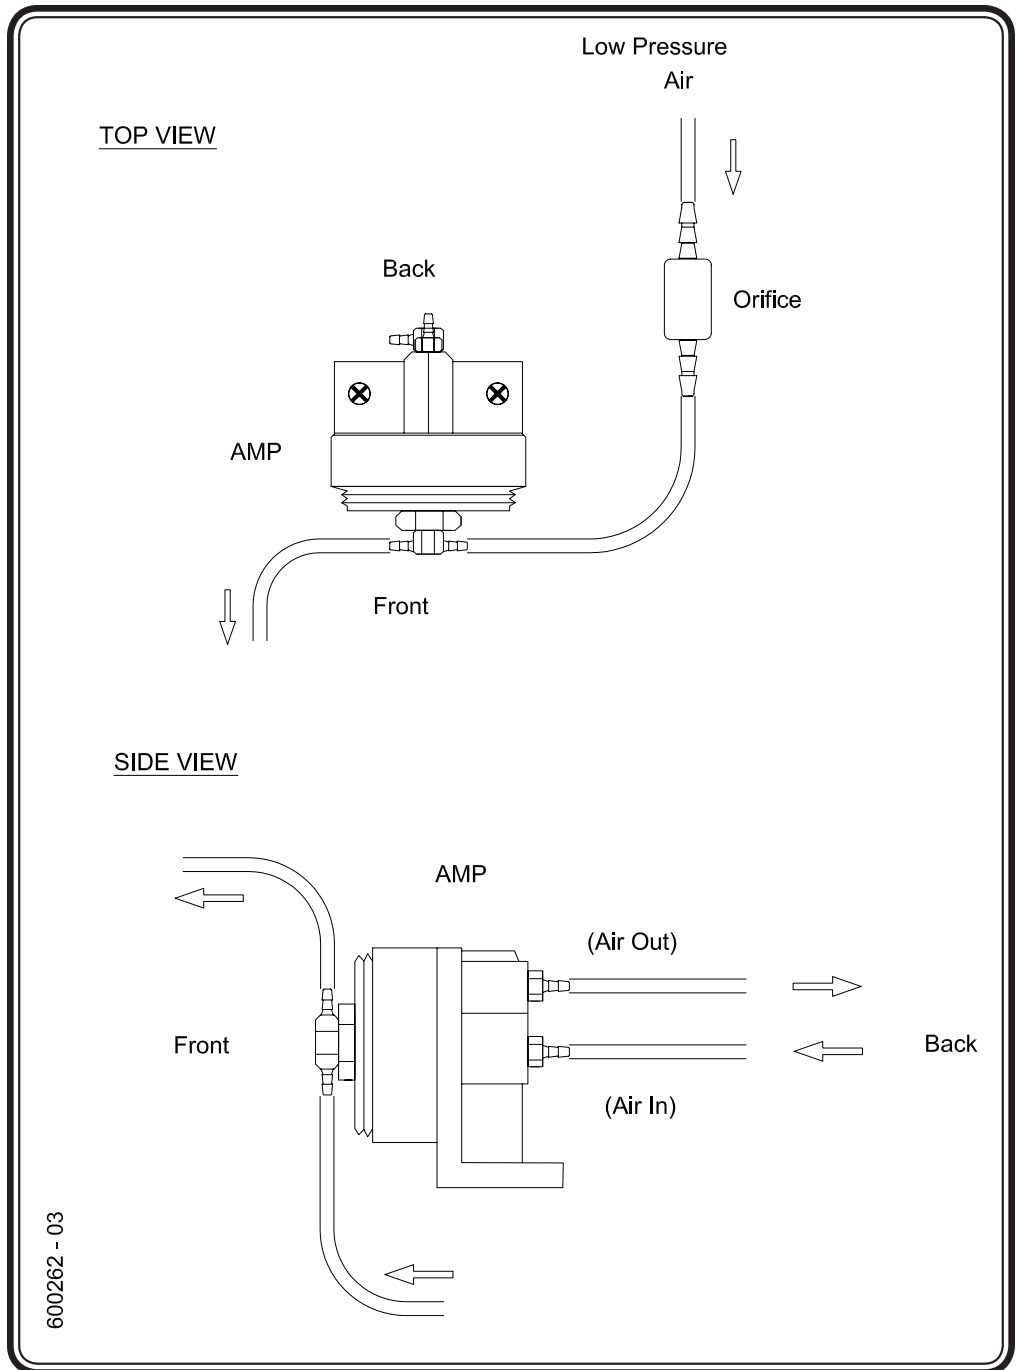

Figure 6 - Amplifier
- If there are no bubbles, trace the tubing to the tee on the front of the "010" amp. (See Figure 6)
- STEP 8 -** Trace the tubing back to the "010" amp. (See Figure 6)
(See Figure 6)